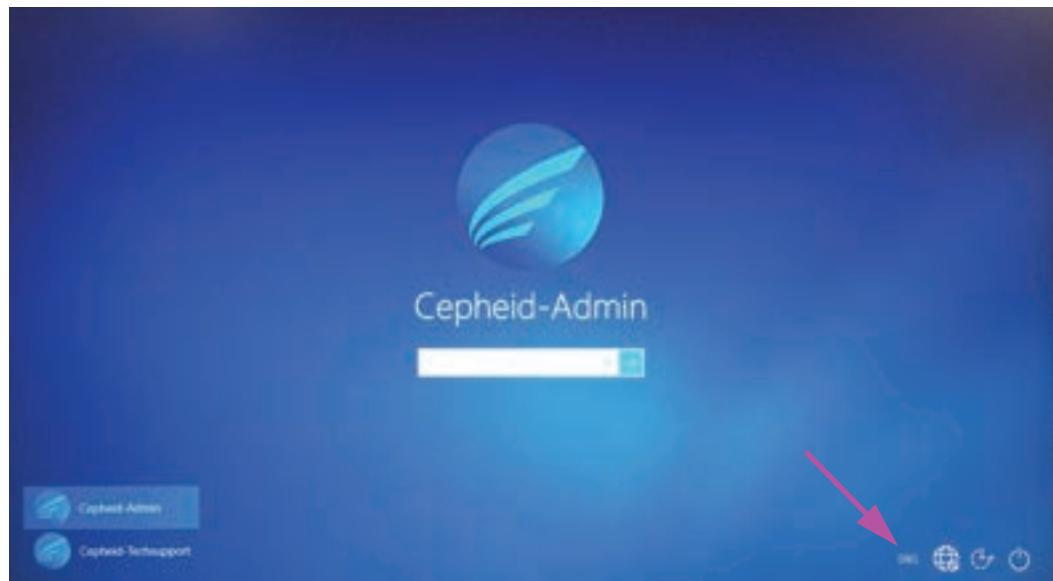

Figure C-20. Windows 10 Login Screen Showing Three-Letter Country Designation
1. When restarting the computer (after completing the language and keyboard additions), when the Windows 10 login screen appears there is now a **three-letter icon** in the lower right corner of the screen showing the current (active) keyboard layout. The active keyboard layout language can now be changed on this screen by clicking this **three-letter icon** (see Figure C-20).